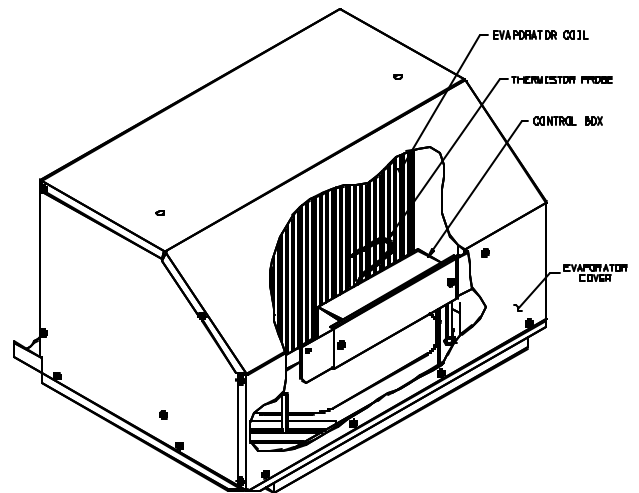

FIGURE 2
7. Insert the evaporator freeze sensor between evaporator fins near the bottom center of the evaporator and between the bottom two tubes (See Figure 2). Insert straight in until contacting the staggered tube directly in back of the insertion point. When contact has been made, elevate the exposed end of the sensor approximately 45 degrees, then continue insertion at a 45 degree angle until the sensor is completely embedded into the evaporator.
Insert the evaporator freeze sensor between evaporator fins near the bottom center of the evaporator and between the bottom two tubes (See Figure 2). Insert straight in until contacting the staggered tube directly in back of the insertion point. When contact has been made, elevate the exposed end of the sensor approximately 45 degrees, then continue insertion at a 45 degree angle until the sensor is completely embedded into the evaporator.
11. Insert the evaporator freeze sensor between the evaporator fins near the bottom center of the evaporator and between the bottom two tubes (See Figure 2). Insert straight in until contacting the staggered tube directly in back of the insertion point. When contact has been made, elevate the exposed end of the sensor approximately 45 degrees, then continue insertion at a 45 degree angle until the sensor is completely embedded into the evaporator. Then connect the sensor to the two terminals marked "FREEZE".